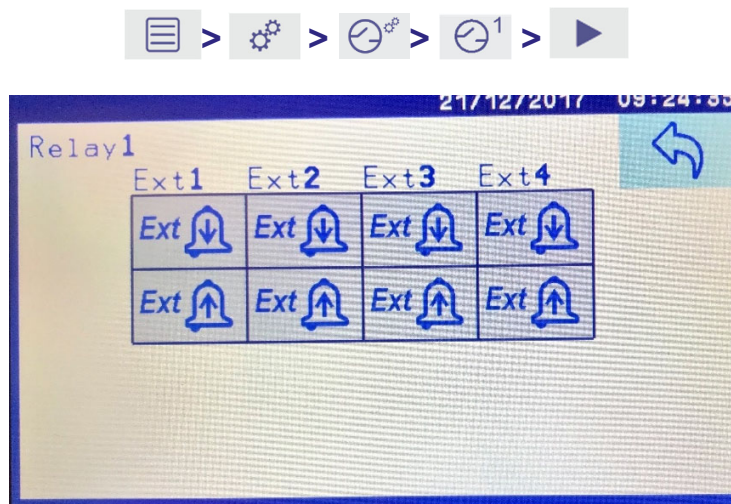

Figure 11-13: Relay Low / Hi alarm fault assignment screen for external mA inputs
There is one external 4-20mA Input per option board. In Figure 11-13 Relay #1  is assigned to the analog Input High and/or Low alarm. Use the Analog Input Section **Error! Reference source not found.** to assign the actual limit values for the relays to alarm at.
- Touch the  icon to set the Low Limit alarm (Figure 11-13).
- Touch the  icon to set the Hi Limit alarm (Figure 11-13).
- Touch the  icon to return to the relay assignment page (Figure 11-13).